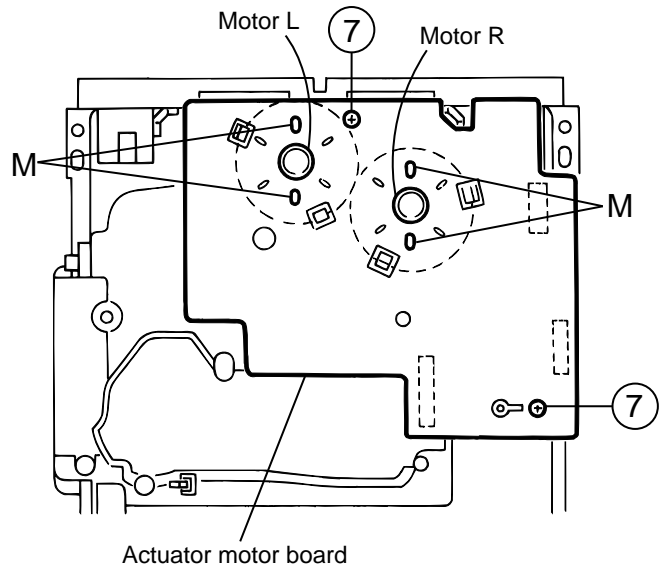

Fig.14
(See Fig.14, 15)**
1. Absord the four soldered positions "M" of the right and left motors with a soldering absorber(See Fig.14).
2. Remove the two screws 7 retaining the actuator motor board(See Fig.14).